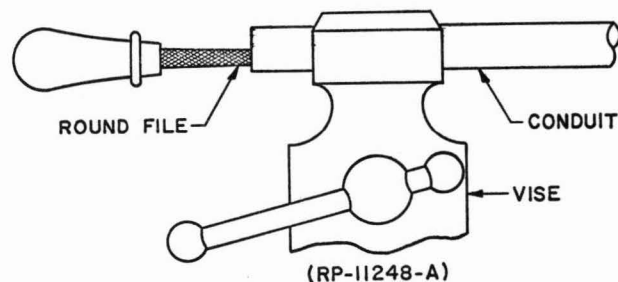

FIG. 3 REMOVING BURR OR SHARP EDGE ON INSIDE OF CONDUIT (PAR. 4.6)
4.6 Use an R-1457 round file as shown in Figure 3, or the R-1505 Reamer to remove any burr or sharpness that may be on the inner edge of the conduit after cutting.